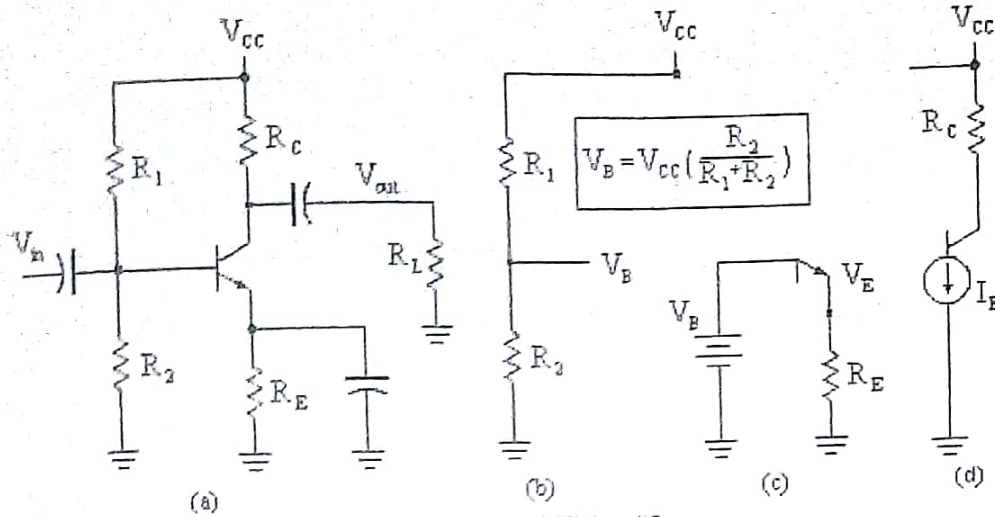

Fig 1: Analysis of CE Amplifier
To make any transistor circuit amplify AC signals, the base-emitter junction must be forward biased, and the base-collector junction must be reverse-biased. The purpose of bias circuits is to establish and maintain the proper DC operating conditions for the transistor. There are several ways to apply DC bias. The simplest method, called base bias or fixed bias, is frequently unsatisfactory due to manufacturing variations between transistors and sensitivity to temperature changes. Base bias is recognized by a single resistor connected from V_{CC} to the transistor base. A much more widely used bias circuit is called voltage-divider bias. Voltage-divider bias is not as sensitive to transistor variations and temperature changes. Voltage-divider bias is shown in Figure 1(a).
To analyze any amplifier, start with the DC parameters. The steps to solve for the DC parameters for the CE amplifier with voltage-divider bias illustrated in Figure 1(a) are:
1. Mentally remove capacitors from the circuit since they appear open to DC. This causes the load resistor, R_L , to be removed. Solve for the base voltage, V_B , by applying the voltage divider rule to R_1 and R_2 , as illustrated in Figure 1(b).
2. Subtract the 0.7 V forward-bias drop across the base-emitter diode from V_B to obtain the emitter voltage, V_E , as illustrated in Figure 1(c).
3. The DC current in the emitter circuit is found by applying Ohm's law to R_E . The emitter current, I_E , is approximately equal to the collector current, I_C . The transistor appears to be a current source of approximately I_E into the collector circuit, as shown in Figure 1(d).